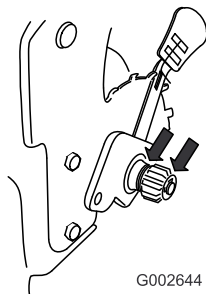

Figure 39
- Apply a lubricating oil to the inner and outer sides of the gear as shown in Figure 39.